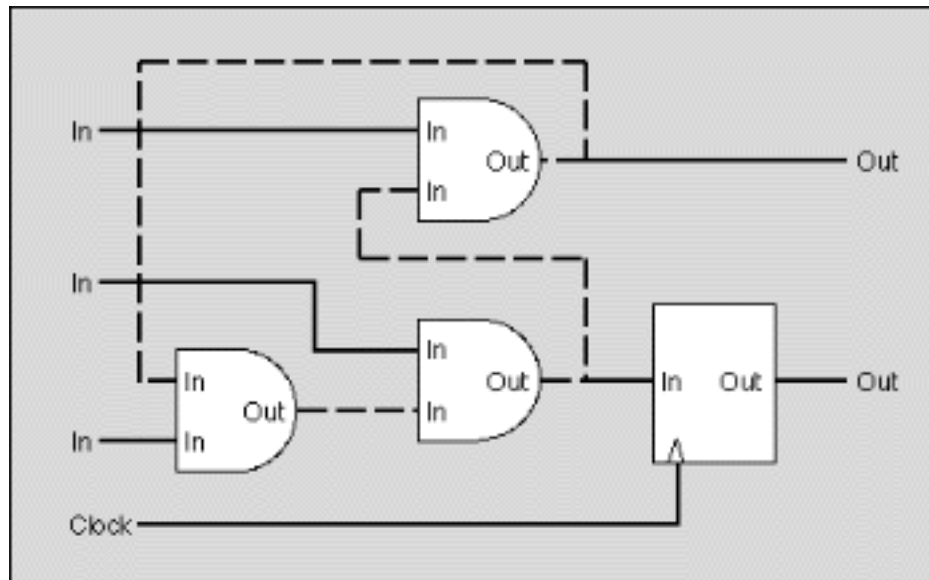

Figure 2: The design contains a cycle (dashed line)
- There may be *n o cycles* composed exclusively of asynchronous nodes. In the real circuit such cycles could oscillate. In figure 2, the dashed path constitutes a cycle of asynchronous nodes.